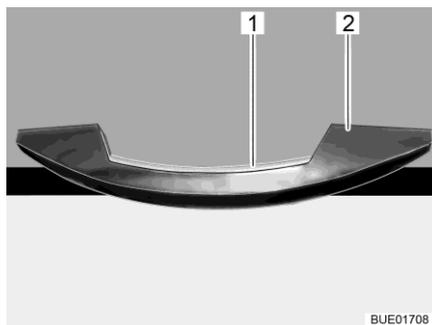
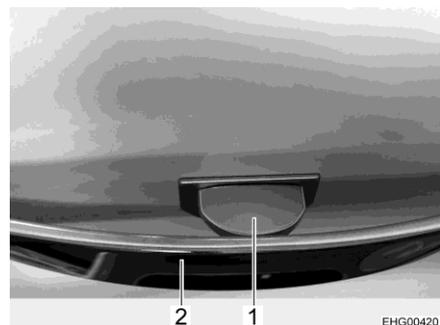

Fig. 66 Handle with unlocking bar (example)
Fig. 67 Handle with release tab
- Press and hold the unlocking bar (Fig. 66,1) or release tab (Fig. 67,1).
- Pull the handle (Fig. 66,2 or Fig. 67,2) until the furniture flap is open.